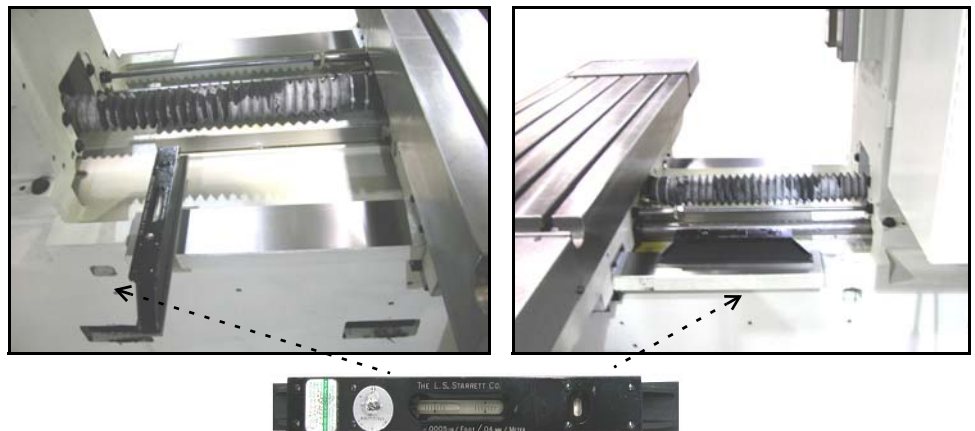

Figure 3-31: Leveling Box way (6535 on right)
- Place the level on the right hand way (the outer right hand way on the 6535) of the base with the small bubble towards the column. Take an accurate reading. See figure 3-31.